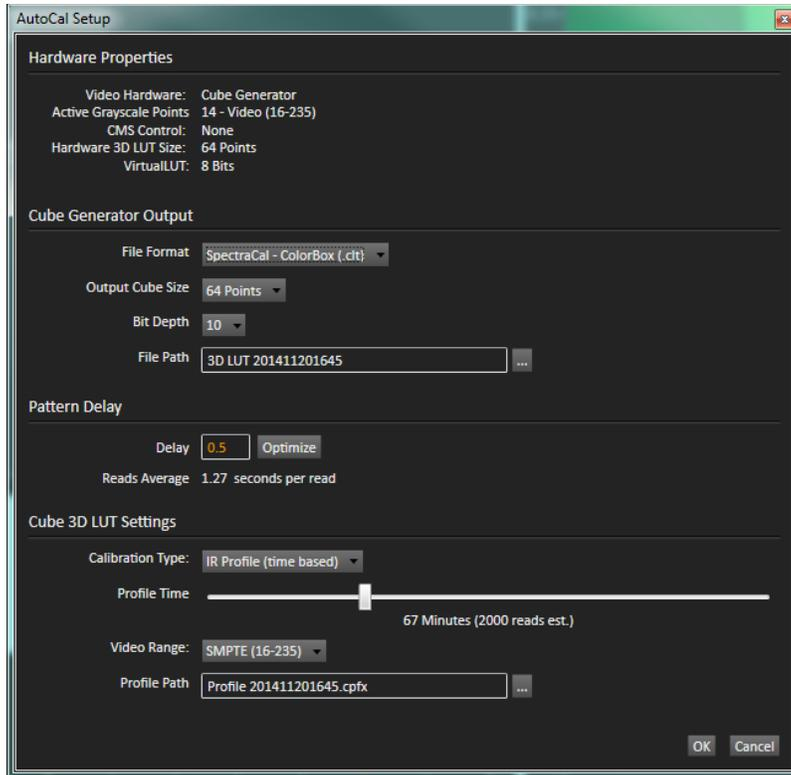

Figure 1. CalMAN AutoCal Setup dialog for 3D LUT creation.
8. On the *3D Cube LUT* page, click the *AutoCal* (rotating arrows) button at the right end of the meter action buttons. The *AutoCal Setup* dialog then appears (Figure 1).